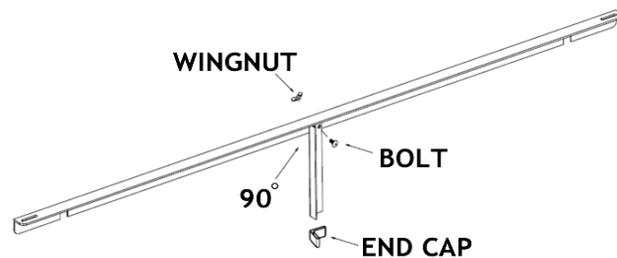
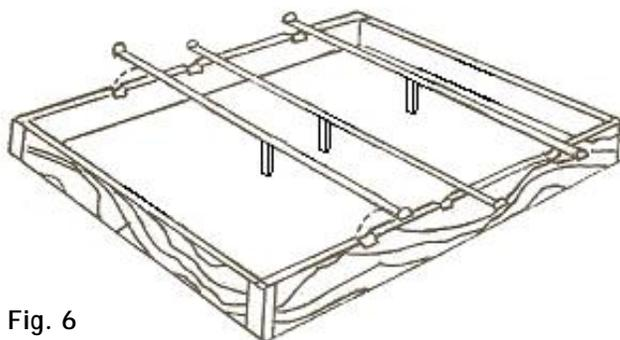

Fig. 4
Fig. 6
3. Locate the cross pieces. Each has an angle leg riveted in the middle. Swing the angle leg out to 90° and secure it with the wingnut and bolt provided. Place the plastic end caps on the bottom of the legs. (See Figure 4.) Place the cross rail in the slots in the side panels. (See Figure 6.)